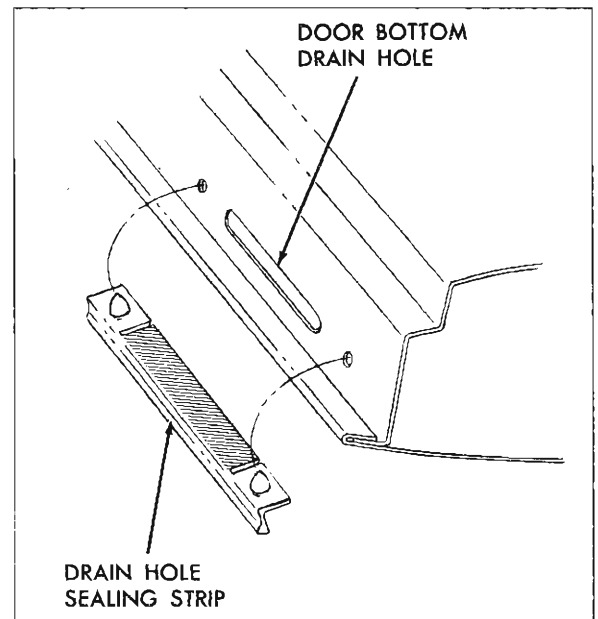

Fig. 3-2 Drain Hole Sealing Strip
1. With a putty knife, or other suitable flat-bladed tool, carefully pry out retaining plugs (see Fig. 3-2).